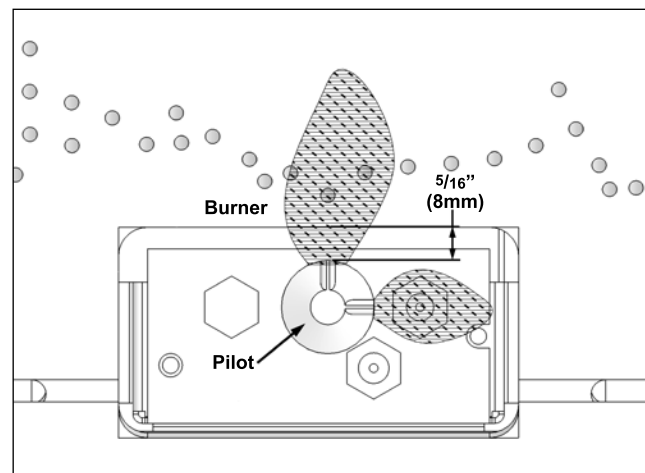

Figure 60: Relationship between ignitor and burner.
25. Check the pilot flame that it is the correct size and orientation. The pilot flame can be adjusted with the adjustment provision on the front face of the valve. This is located just up and to the left of the regulator motor. It is clearly marked on the valve. Adjusting the screw in or out will raise or lower the pilot flame height. The correct pilot flame should resemble Figure 60.